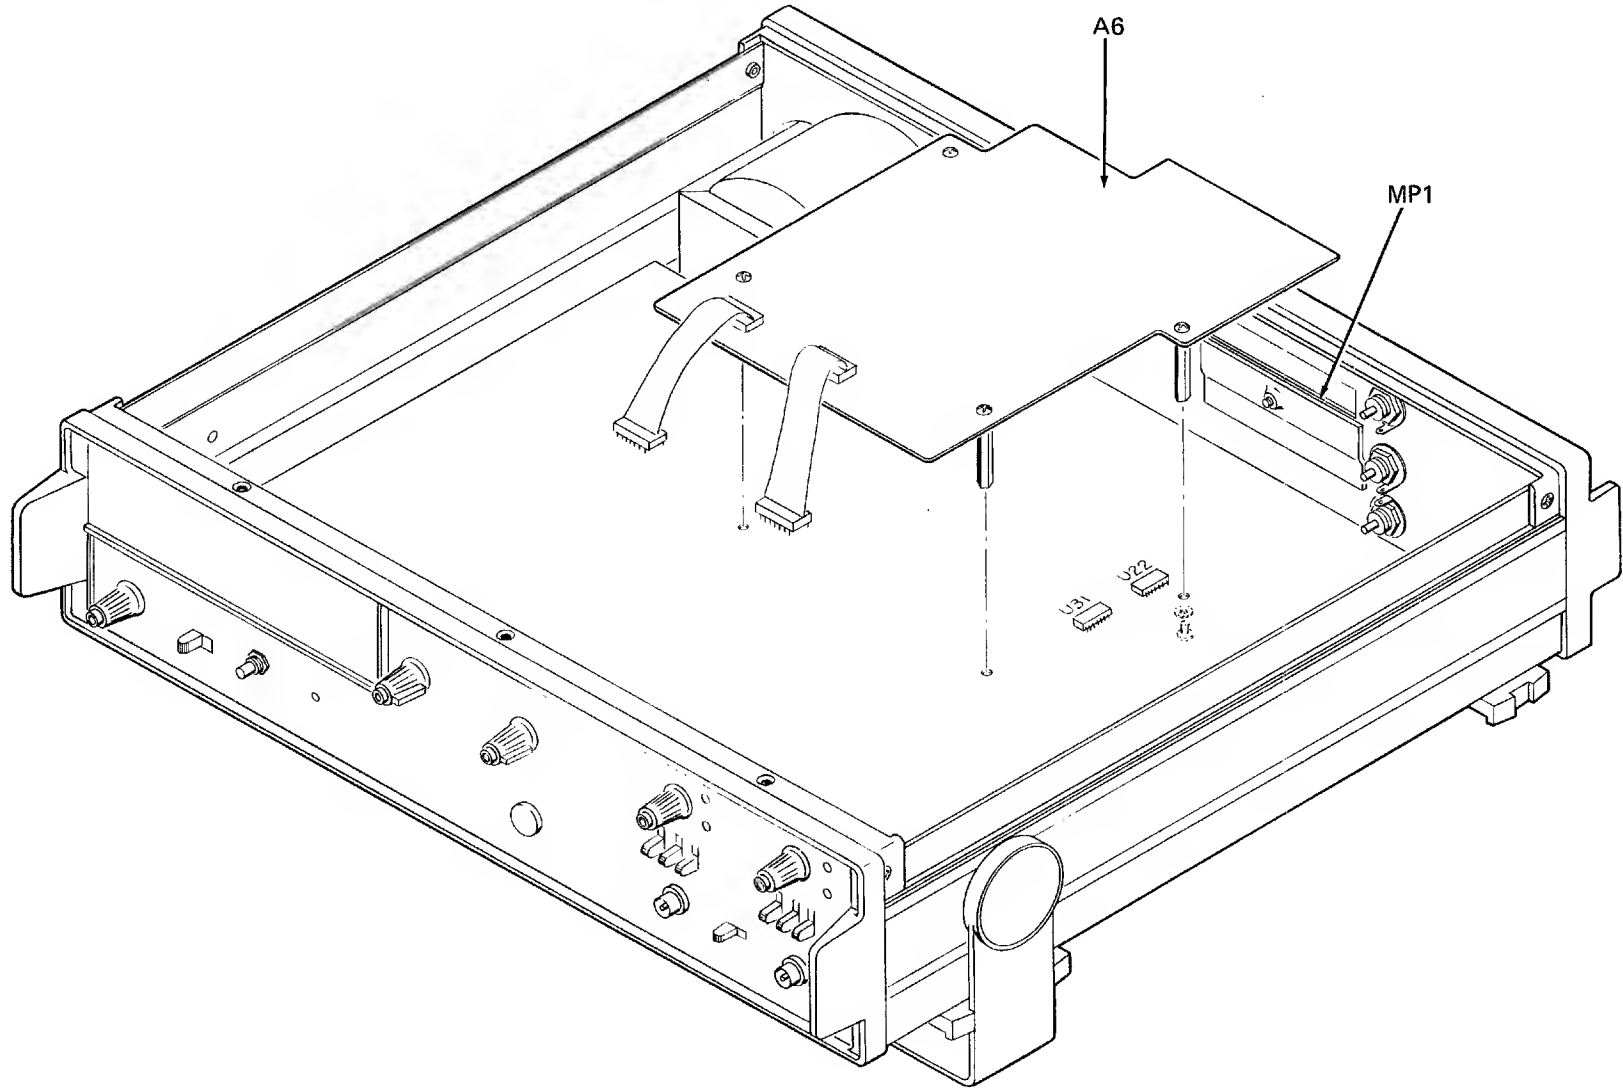

Figure 602-2: -02 Option, Data Output Unit
-02	DATA OUTPUT UNIT, OPTION -02 FIGURE 602-2